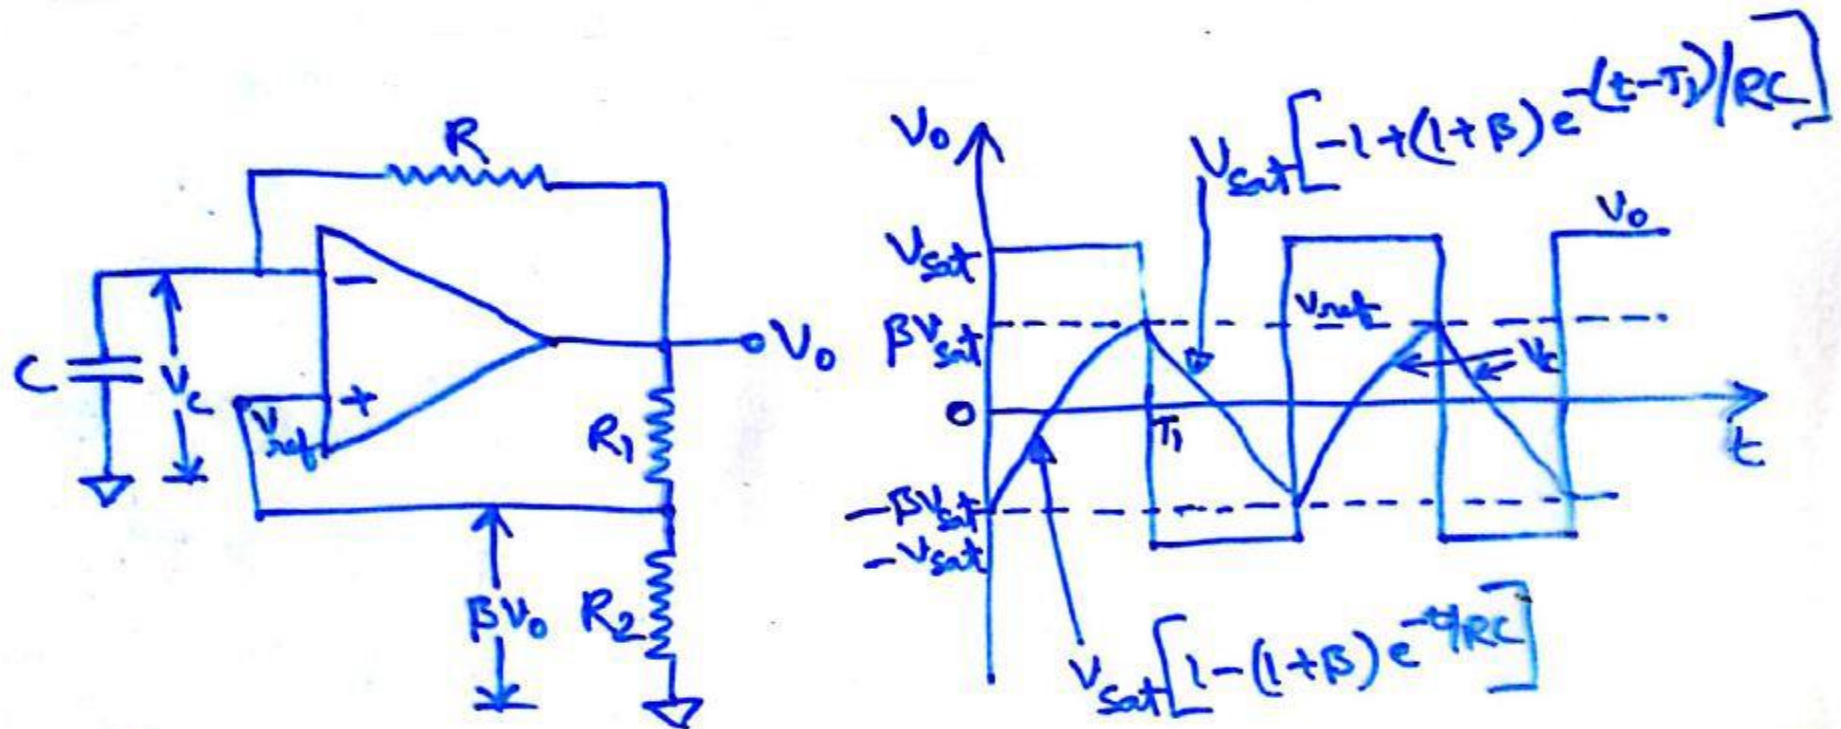

Fig 5.10(a) Simple op-amp square wave generator (b) waveforms.
- • In Figure 5.10(a), fraction $\beta = R_2/(R_1+R_2)$ of